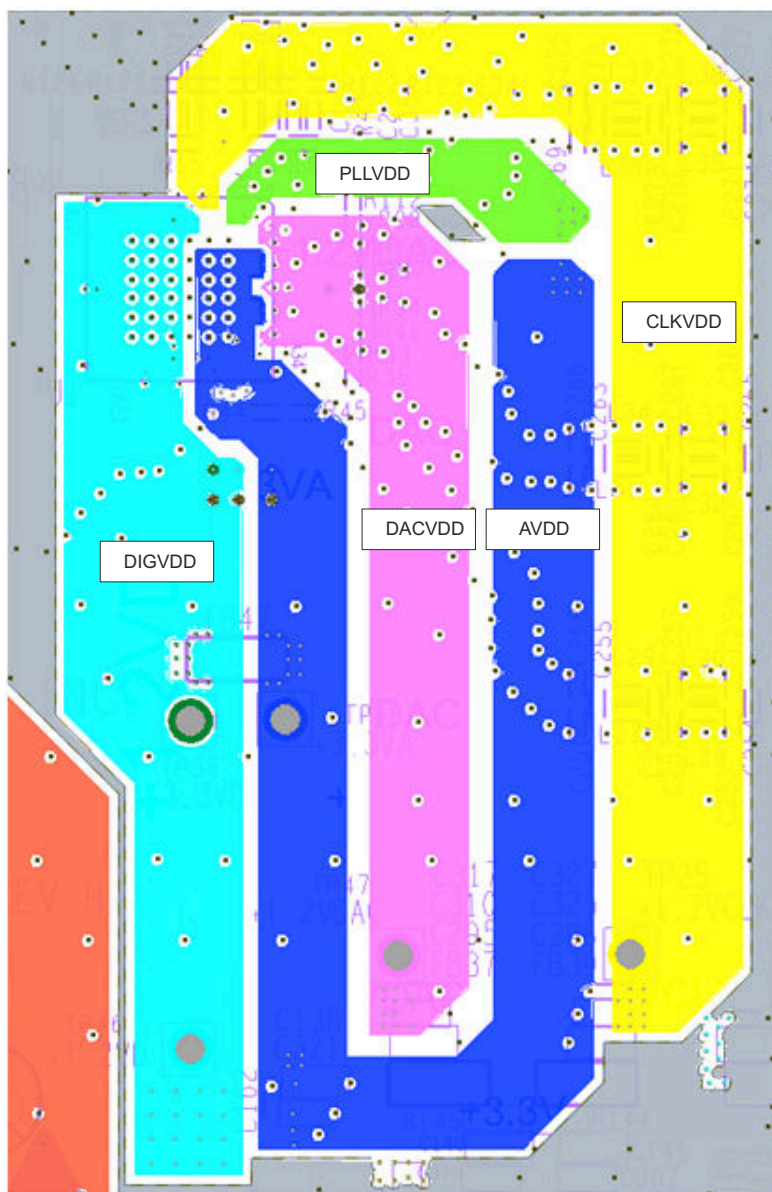
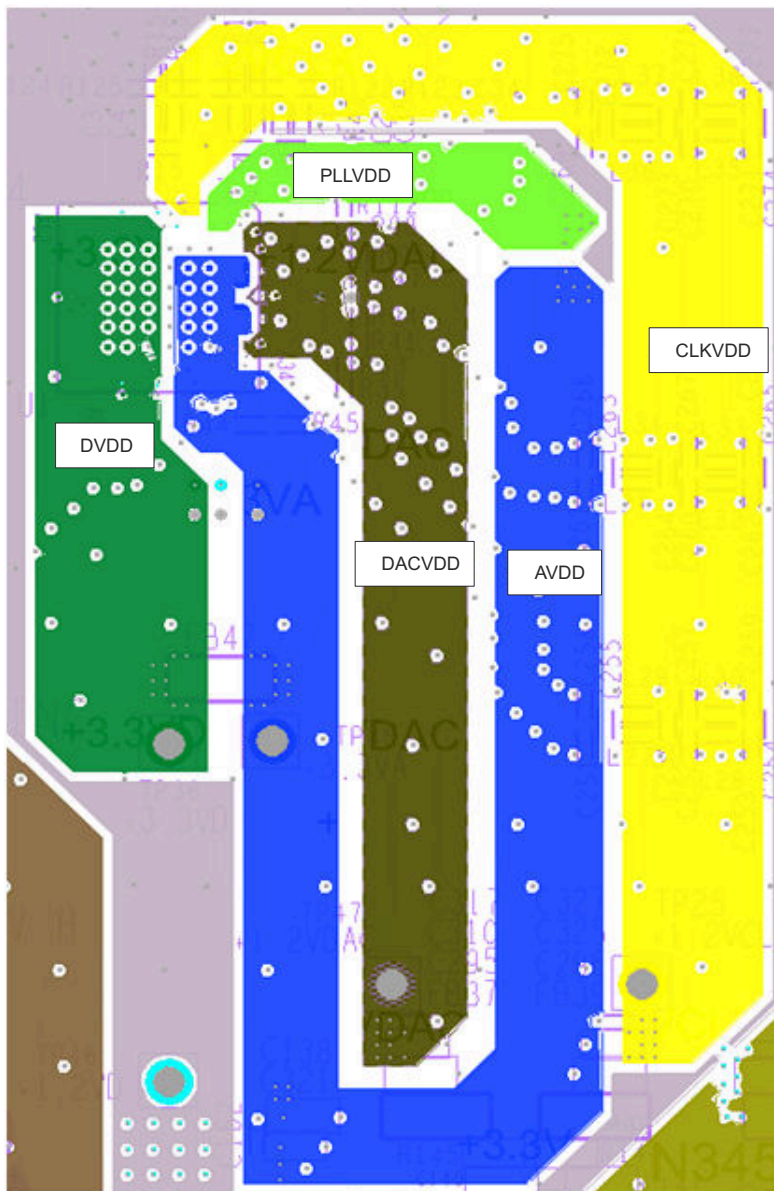

图 7-11. Third Layer of DAC3482 Layout Showing Power Layers. Layout Example from DAC3482EVM Rev H
图 7-12. Fourth Layer of DAC3482 Layout Showing Power Layers. Layout Example from DAC3482EVM Rev H
The following layout guidelines correspond to the layouts shown in 图 7-11 and 图 7-12.
2. As shown in 图 7-11 and 图 7-12, both layers three and four are designated for power supply planes. The DAC analog powers are all in the same layer to avoid coupling with each other, and the planes are copied from layer three to layer four for double the copper coverage area.